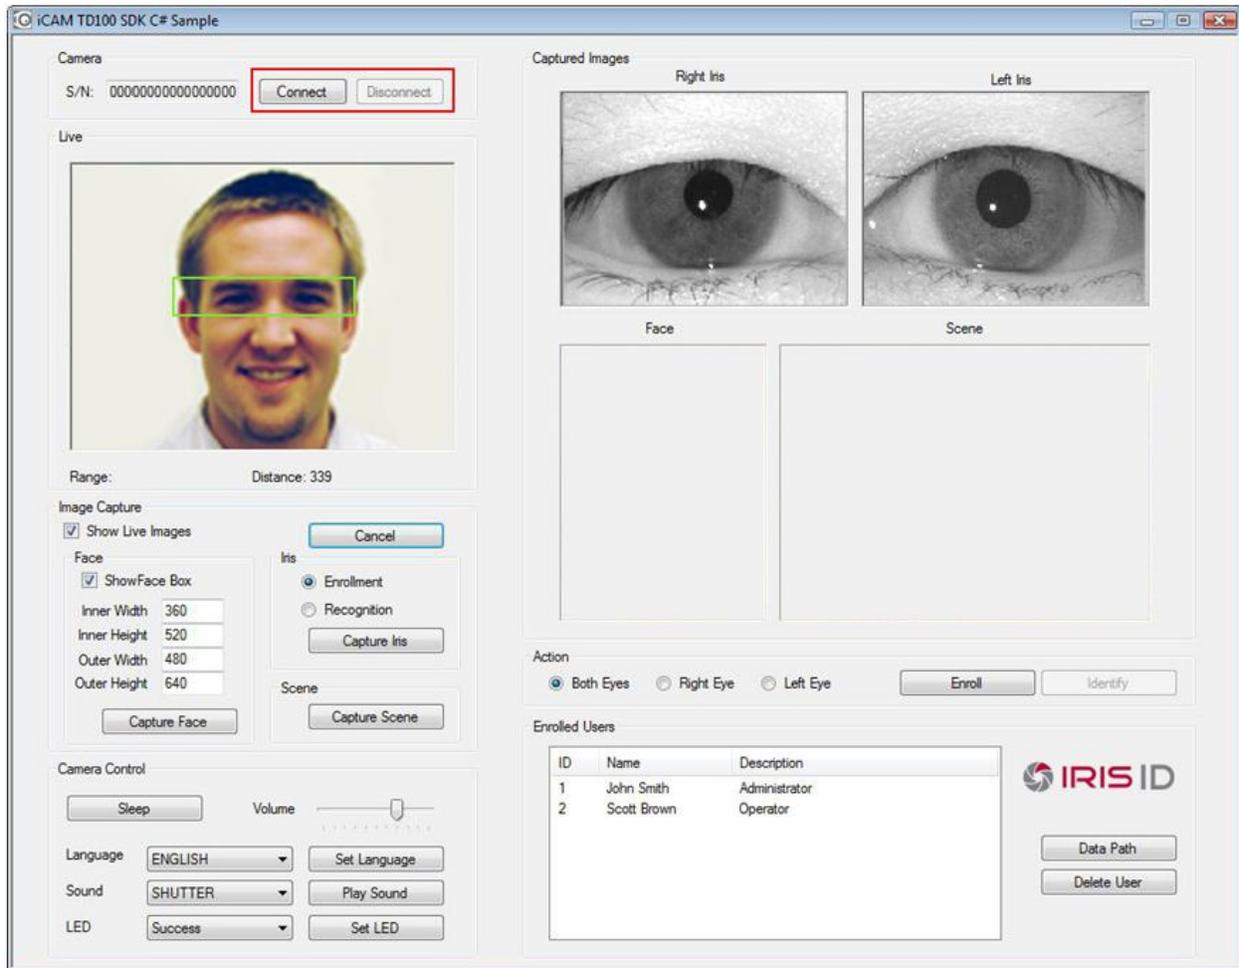

Fig. 1 Sample SDK application preview image
2. Press > **Connect** button (as shown in Fig. 1)